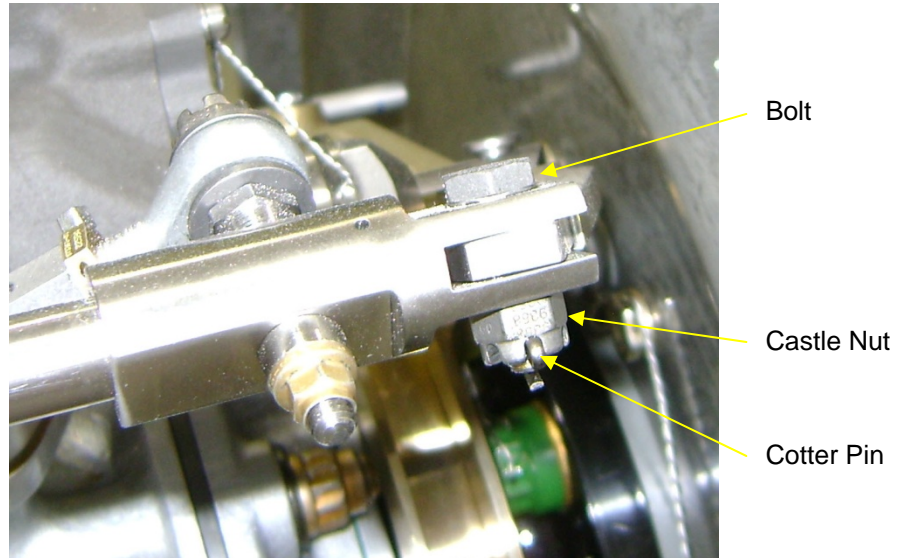

Figure 5-4: Propeller Reversing Cable/Beta Arm
- a. Remove the cotter pin and castle nut securing the bolt in the beta arm and the propeller reversing cable. Refer to **Figure 5-4**.
- b. Carefully remove the bolt securing the beta arm to the propeller reversing cable. Refer to **Figure 5-4**.